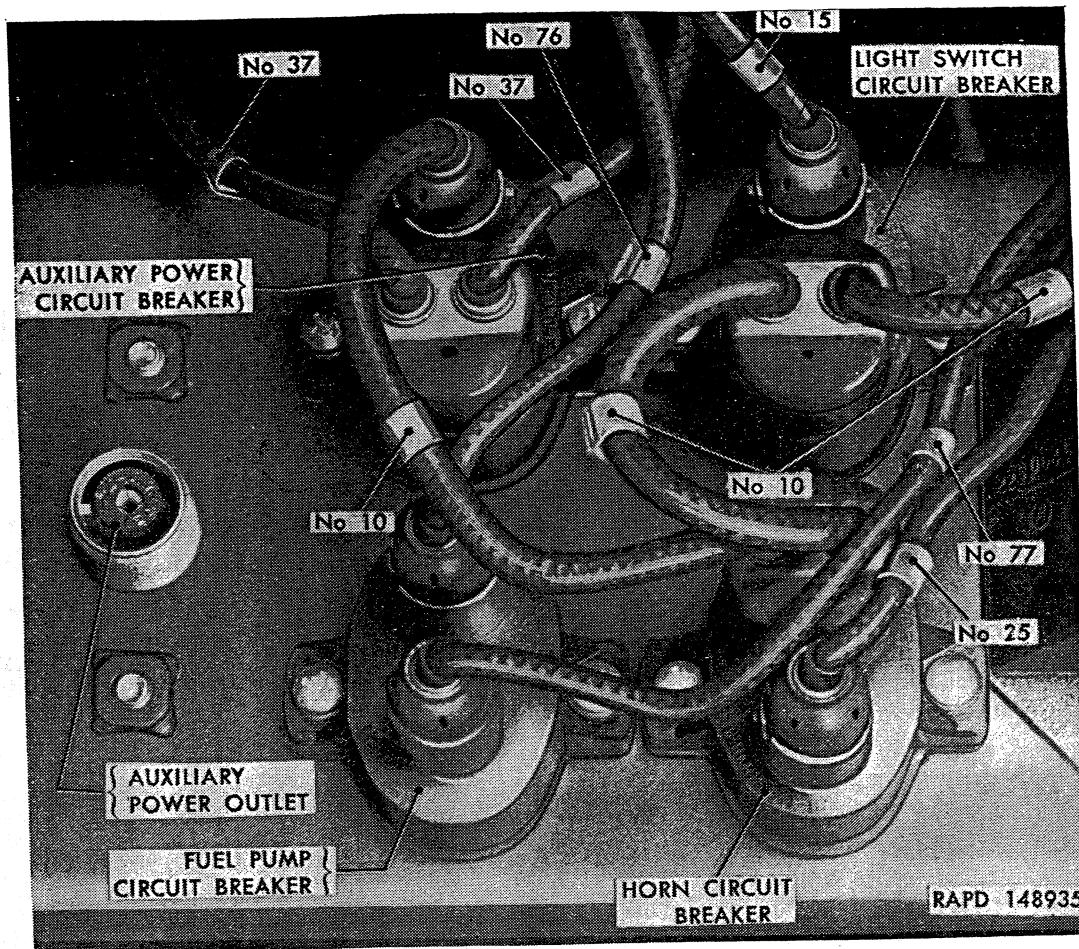
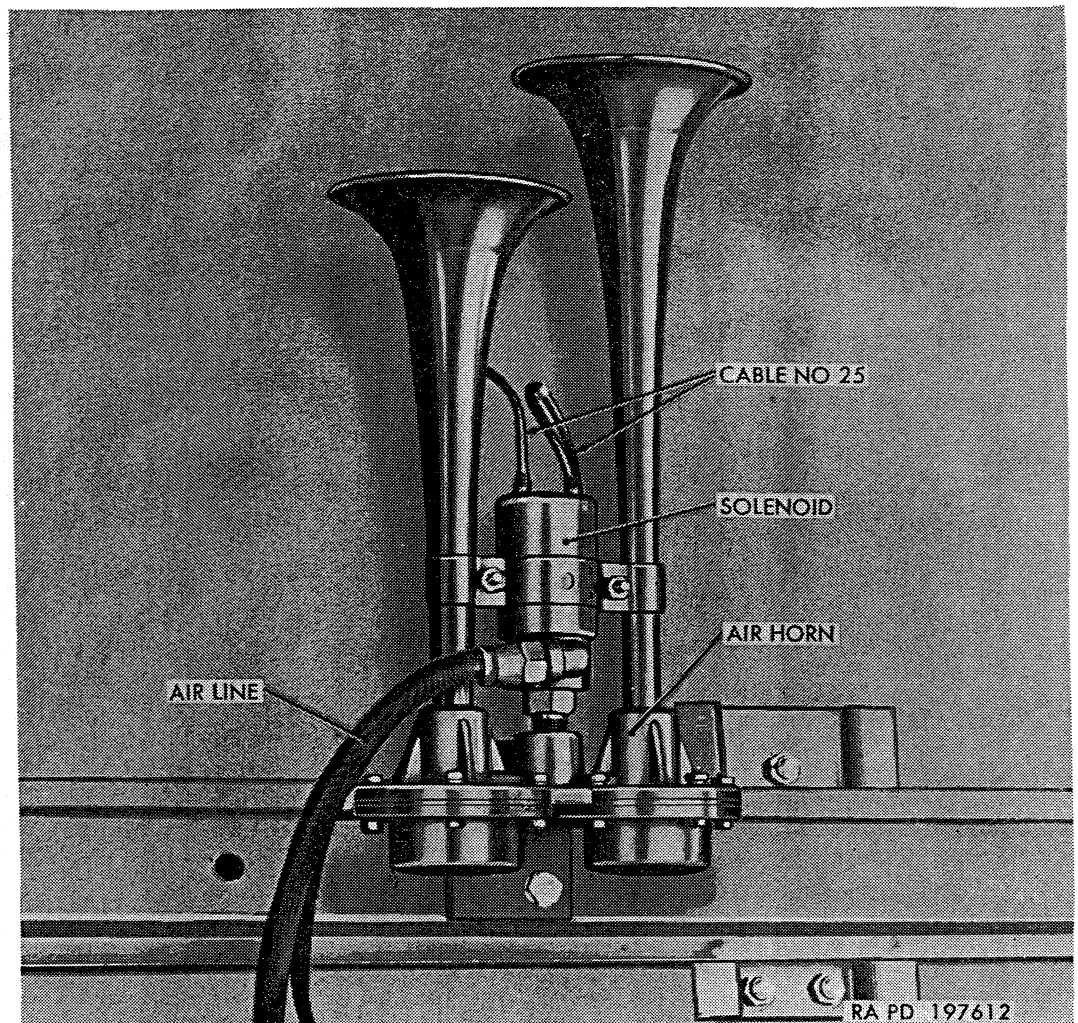

Figure 176. Circuit breakers and auxiliary power outlet installed (early M135).
Figure 178. Horn installed.
(fig. 176 or 177)
*a. General.* Electrically controlled, air-operated horn (fig. 178) is mounted on under side of hood reinforcement above engine. Horn is accessible with hood in raised position (par. 303*b*). Flexible air line from junction fitting on cowl connects to air inlet at horn solenoid. When electrical circuit through solenoid is completed by horn button in center of steering wheel (fig. 179), solenoid admits air pressure into the vibrating-diaphragm-type horn, causing horn to sound. Wiring connections at horn are made through bayonet-type connectors; connectors are secured in clips attached to horn projector bracket. Horn circuit is protected by a 15-amp circuit breaker (fig. 176 or 177) mounted on steering gear cowl bracket.
*b. Horn Removal (fig. 178).*
- (1) Exhaust air pressure from air system. Disconnect flexible air line from horn solenoid.
- (2) Remove two cap screws and nuts attaching horn to horn bracket. Disengage cable connectors from clips on horn projector bracket and disconnect cables.
*c. Horn Installation (fig. 178).*
- (1) Connect wiring harness cables (No. 25) to horn solenoid cables; then engage connectors in clips on horn projector bracket.
- (2) Position horn at mounting bracket on hood reinforcement and attach with two  $\frac{1}{4}$ -28 x  $1\frac{1}{8}$  cap screws and  $\frac{1}{4}$ -28 nuts, securing wiring harness clip under one of the nuts. Tighten nuts and engage wiring harness in clip.
- (3) Connect flexible air line to horn solenoid inlet, tightening the connection firmly.